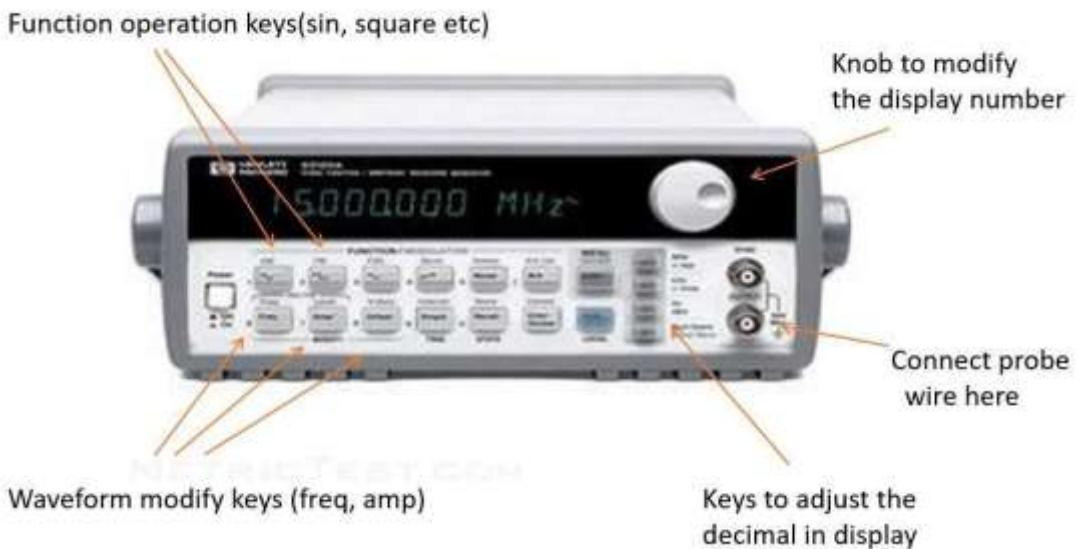

Fig. 7 Function generator
- One of the commonly used function generators with its components is shown in Fig. 7.